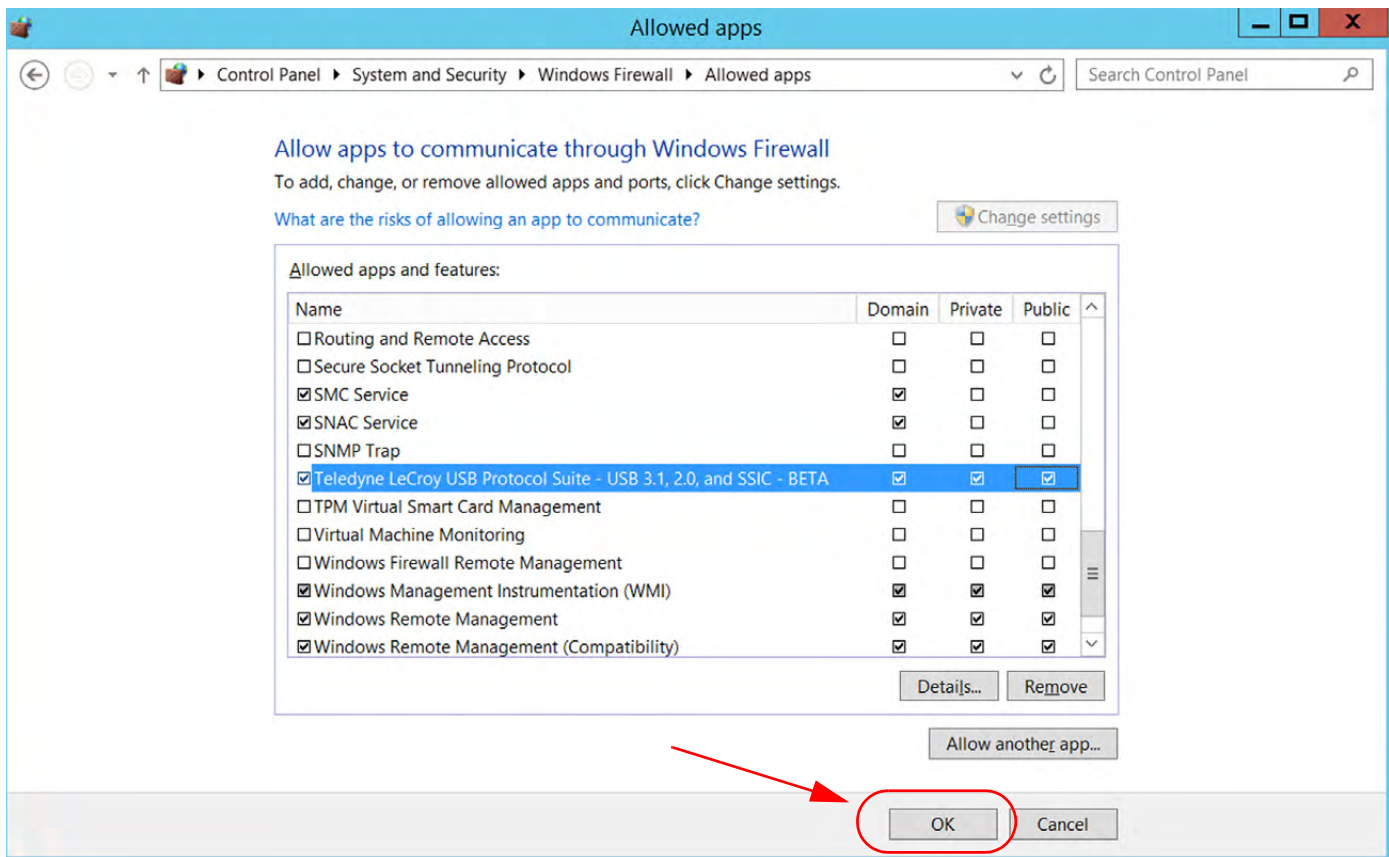

Figure 3.9: Windows Server 2012: Add Teledyne LeCroy USB Protocol Suite to Allowed Applications
10. After the Application has been added, you can see it in the “Allow apps to communicate through Windows Firewall” screen. See Figure 3.9.